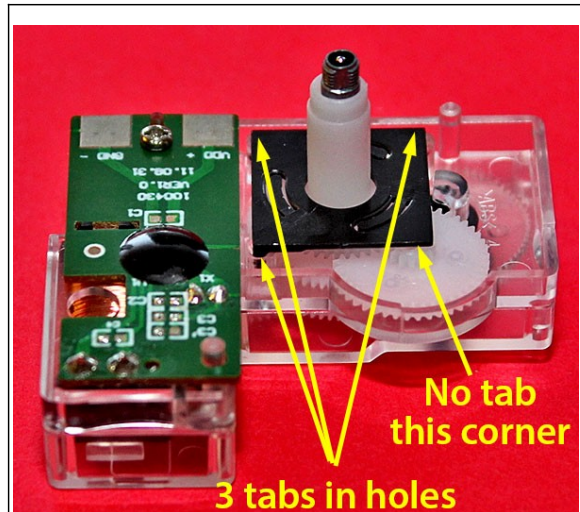

Fig. 51: Gear retainer in place.
- **Gear retainer.** Hold the square black gear retainer with the three tabs facing downward. Slide the retainer over the shaft on gear #3. Align it so the corner without tab is over gear #2. The tabs on the other three corners should fit into three mating holes in the clear plastic housing. Press these three corners downward so the tabs insert securely into the holes and hold the retainer in place. See Fig. 51.